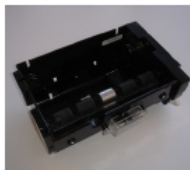

Figure 1
1. Using key provided (on bottom of dispenser) open cover and locate battery compartment on bottom toward back of dispenser. See *Figure 1*.